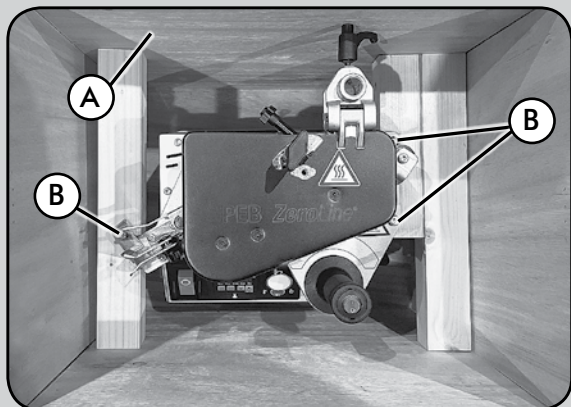

Fig. 1
- Unscrew and remove the 3 screws B (Fig. 1) from inside box A (Fig. 1) using a Phillips screwdriver (keep them for later use).